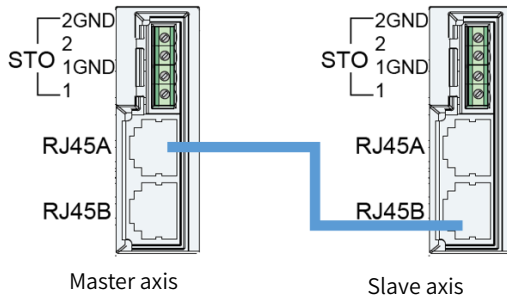

Figure A-4 CAN communication wiring
- 2) Connect the RJ45A port of the master axis and the RJ45B port of the slave axis through the network cable, as shown in Figure A-4.